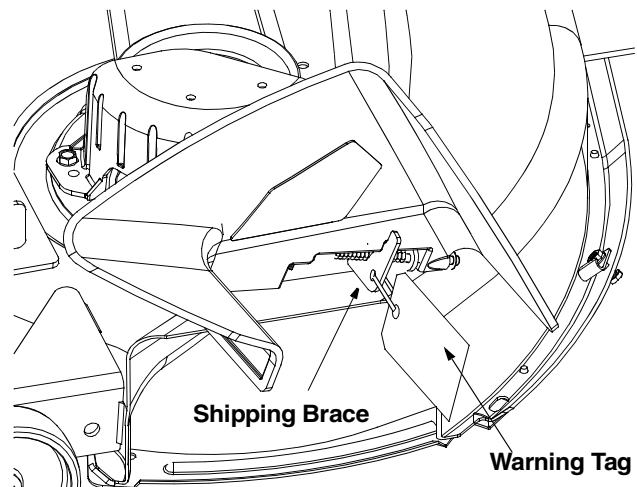

Figure 2
- Locate the shipping brace and accompanying warning tag on the right side of the tractor, between the discharge chute and the deck. See Figure 2.